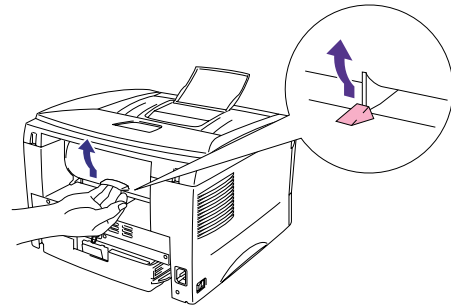

Fig. 2-25
- (1) Select the manual feed mode in the printer driver.
- (2) Lift up the rear cover at the rear of the printer. (Fig. 2-25)
- (3) Send the print data to the printer.
- (4) Follow Steps (3) to (4) in the previous page to load paper.
- (5) Close the rear cover of the printer.